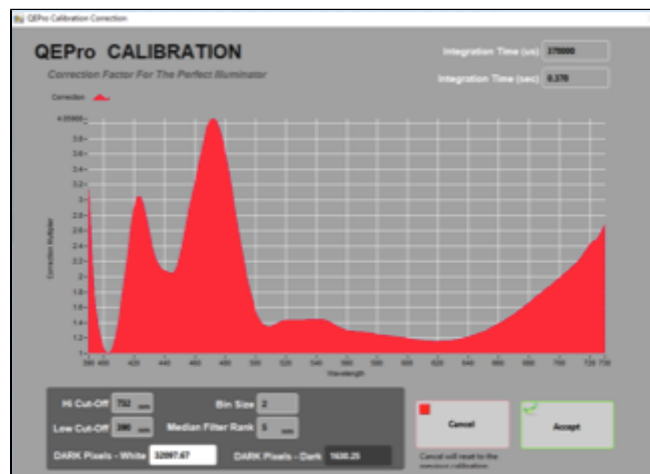

Figure 12. Calibration Normalization Factor
- Figure 12 shows the normalization of spectra that will occur with the just-acquired calibration. **Note:** a calibration may be run at any time outside of the mandatory calibration period.